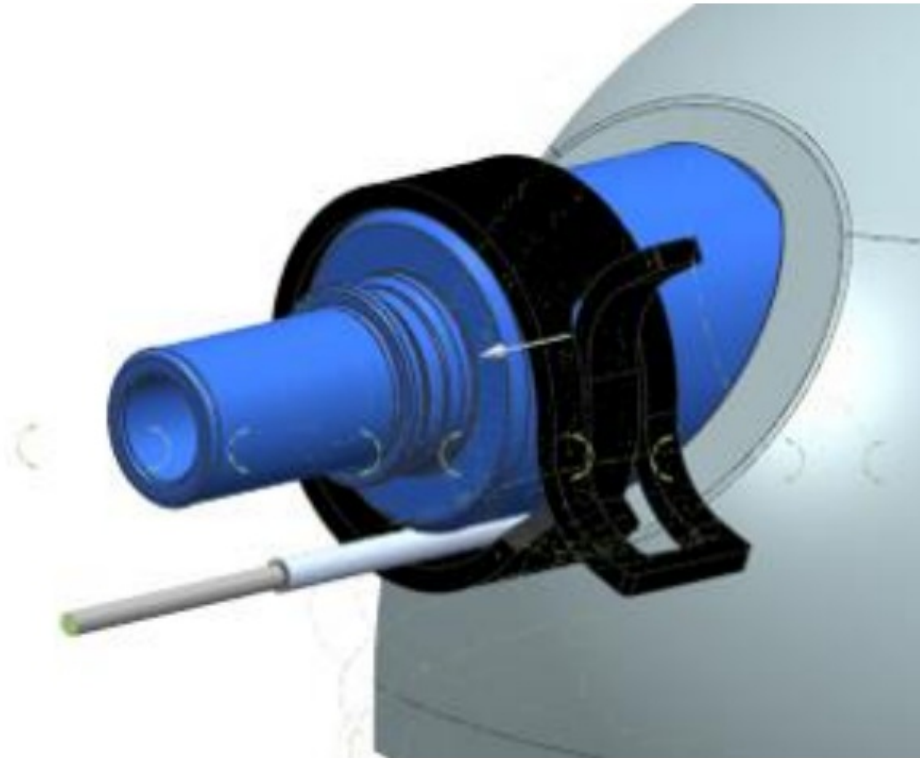

Figure 3: Clamp for sensor fixation
4. Finally, use a spring clamp to ensure long-term fixation of the sensor. Mount the clamp carefully as per Figure 3. The probe should be pressed against the discharge port by the full clamp width.